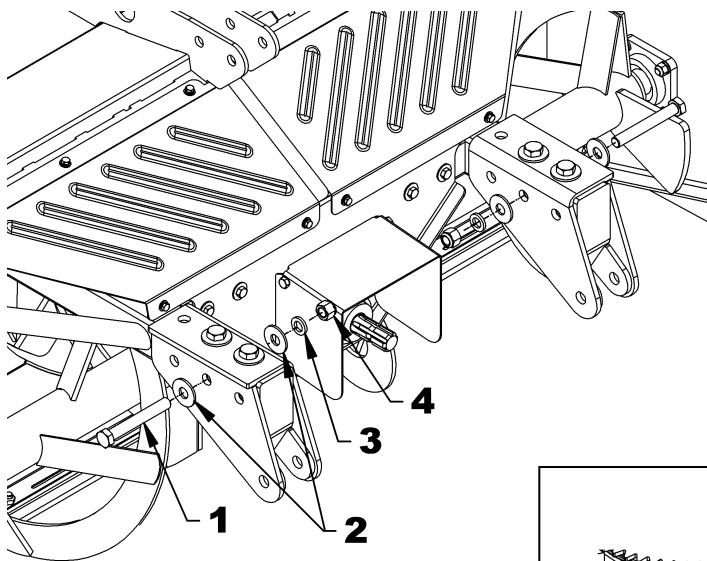

Figure 12
4. **Figure 12:** Install the 3/4"NC x 5 1/2" side hex bolts (item 1) in the middle holes of the lower hitches, the 3/4" flat washers (item 2), the 3/4" lockwashers (item 3) and the 3/4" nylon insert locknuts (item 4).